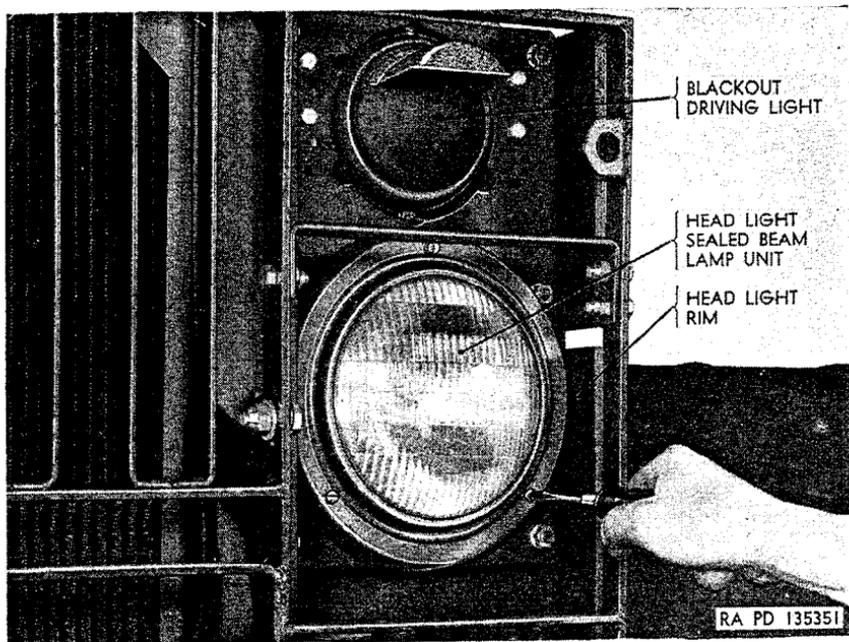

Figure 182. Removing headlight rim.
- (1) Remove three mounting screws from headlight rim (fig. 182) and remove rim.
- (3) Position headlight rim (fig. 182), install three screws, and tighten.
c. Adjustment. Adjustment of the headlights is readily accomplished with a headlight aiming chart. Cover one headlight while adjusting the other. Remove headlight rim (fig. 182). Turn vertical